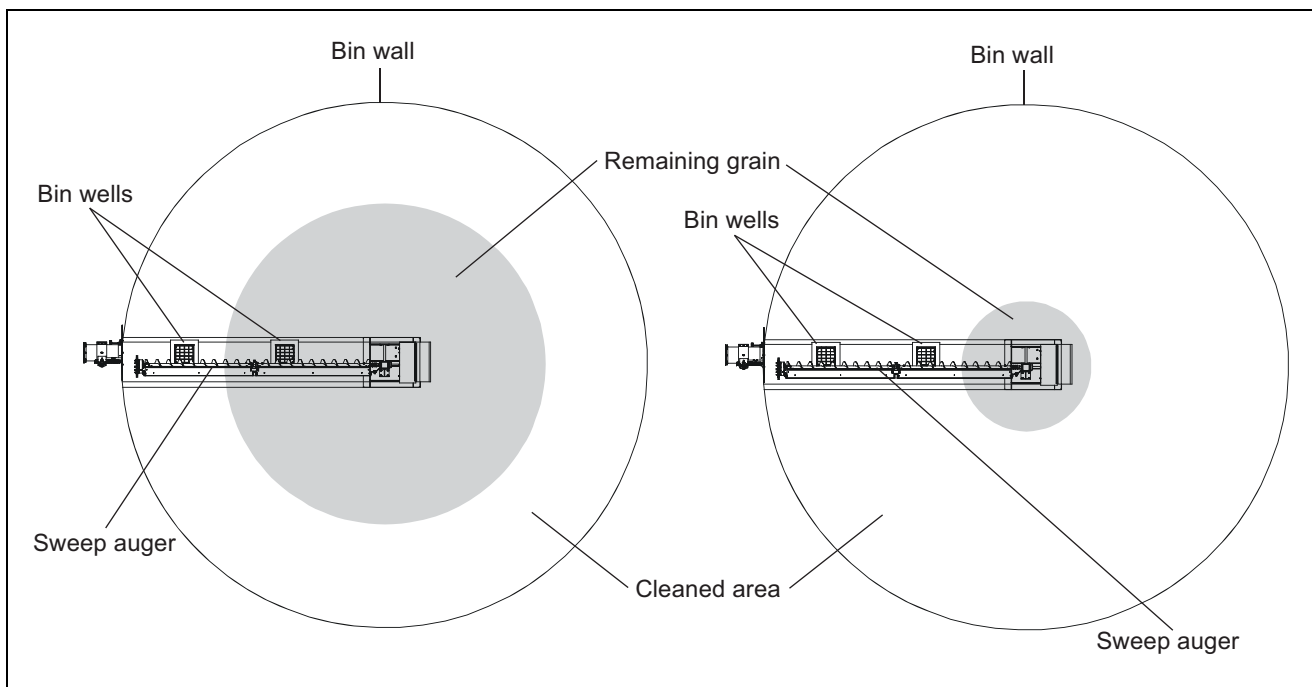

Figure 6G Top View of Bin
1. Clean (scoop and sweep by hand) the outer area of the floor into a circular pile towards the center of the bin. (See Figure 6G.)